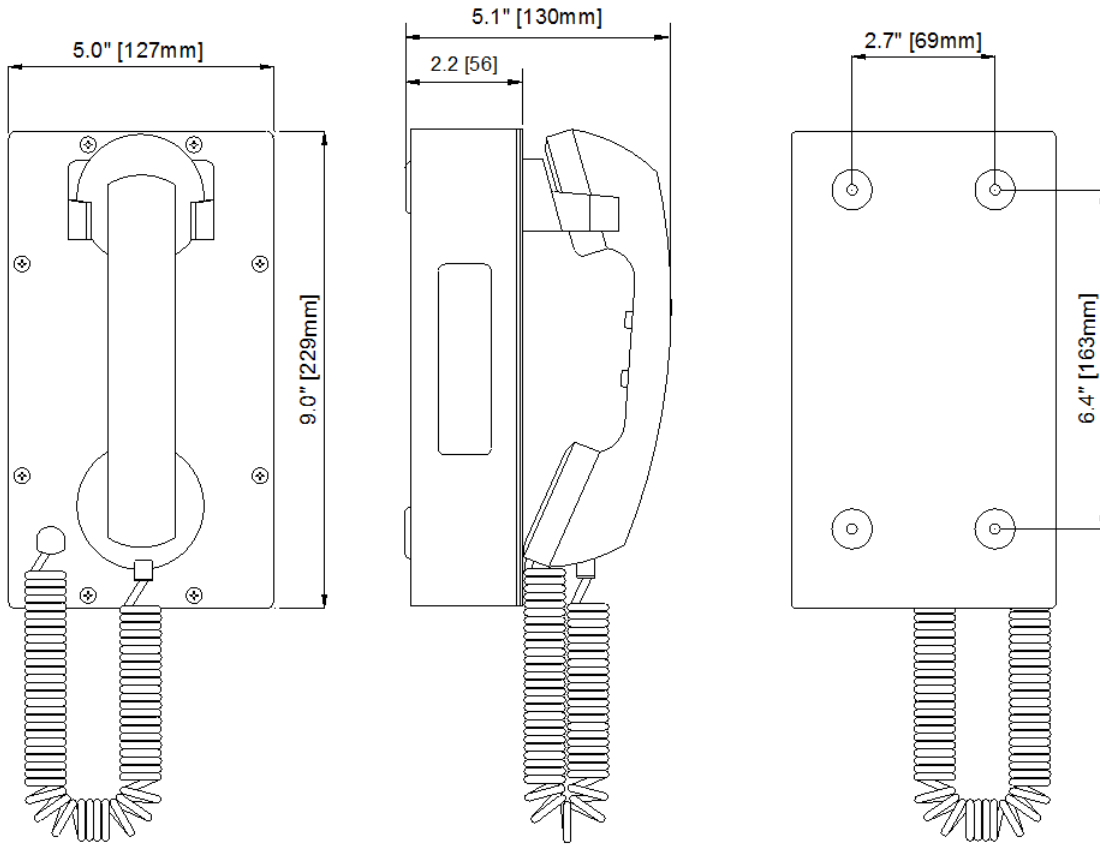

Figure 2 - Overall Dimensions
**See:** Figure 2 - Overall Dimensions.